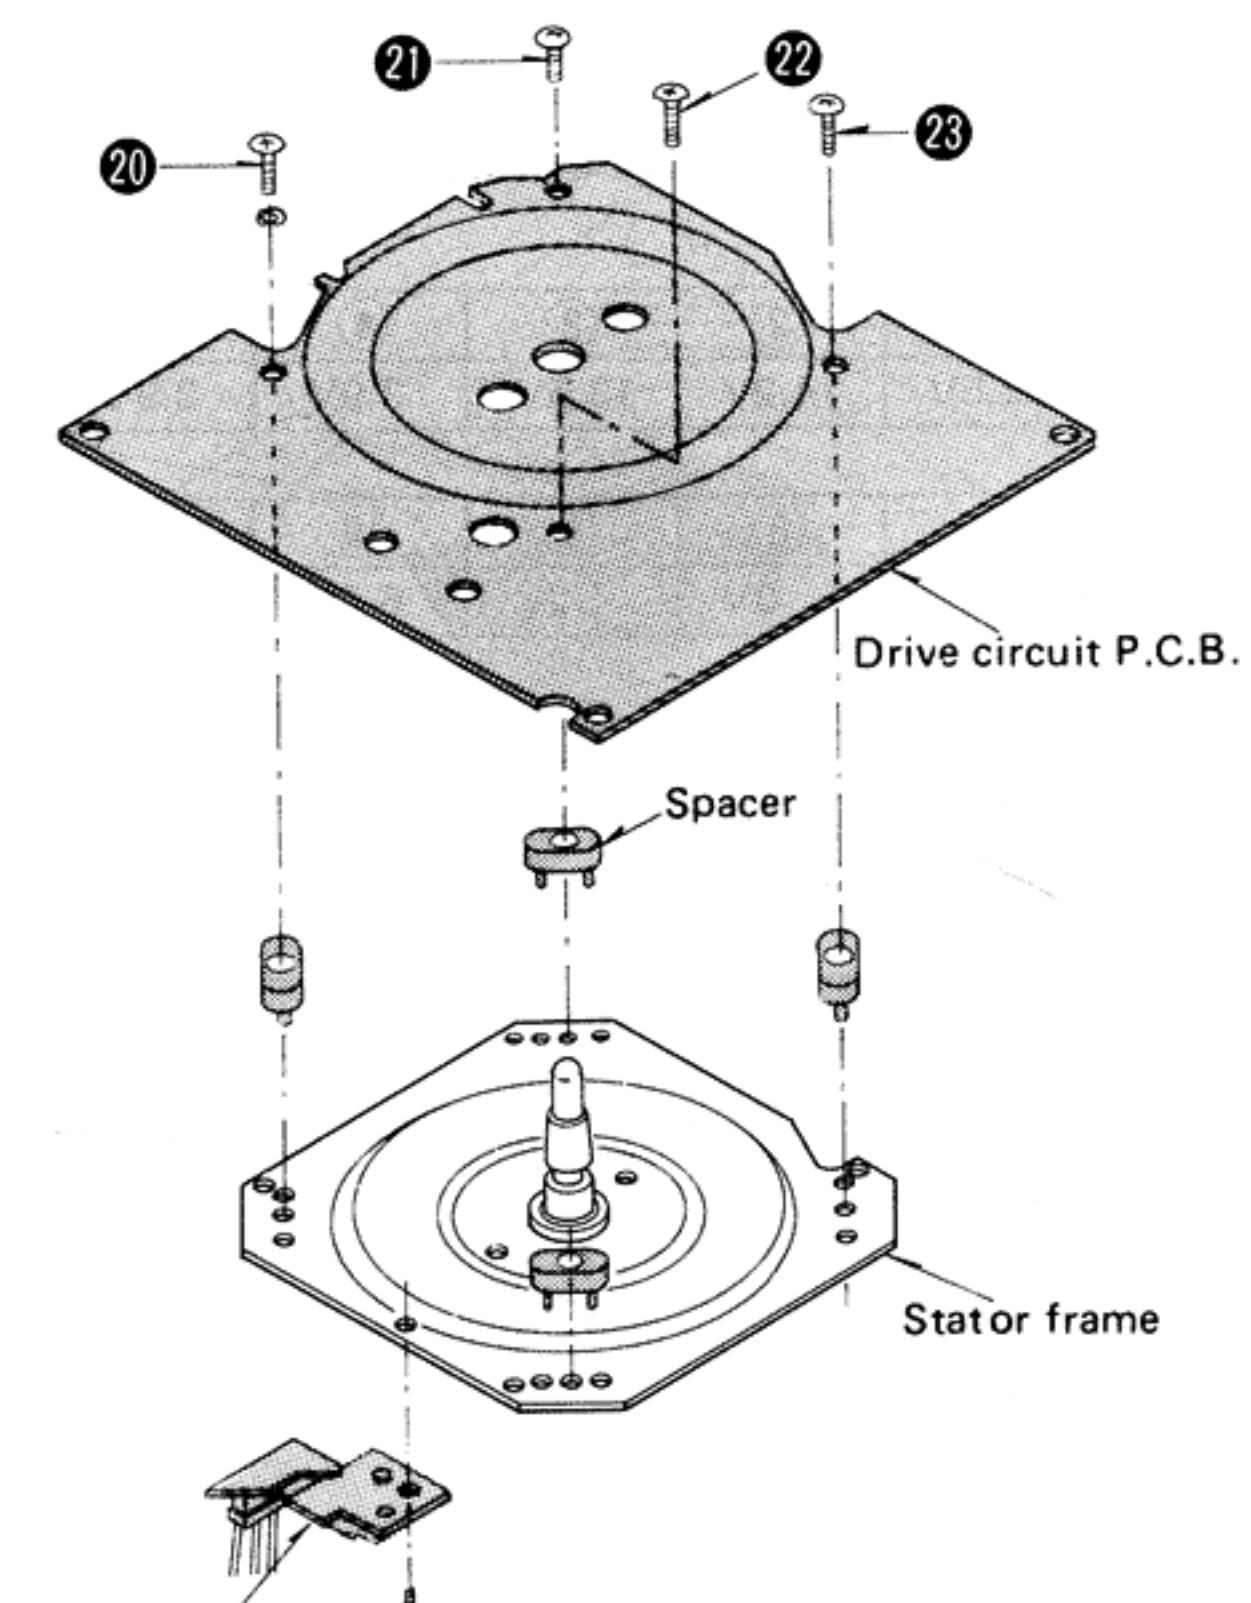

Fig. 6
1. Remove the 4 setscrews (Fig. 6 : ⑳ ~ ㉓) of drive circuit P.C.B.
1. Remove the setscrew ㉔ in Fig. 6.